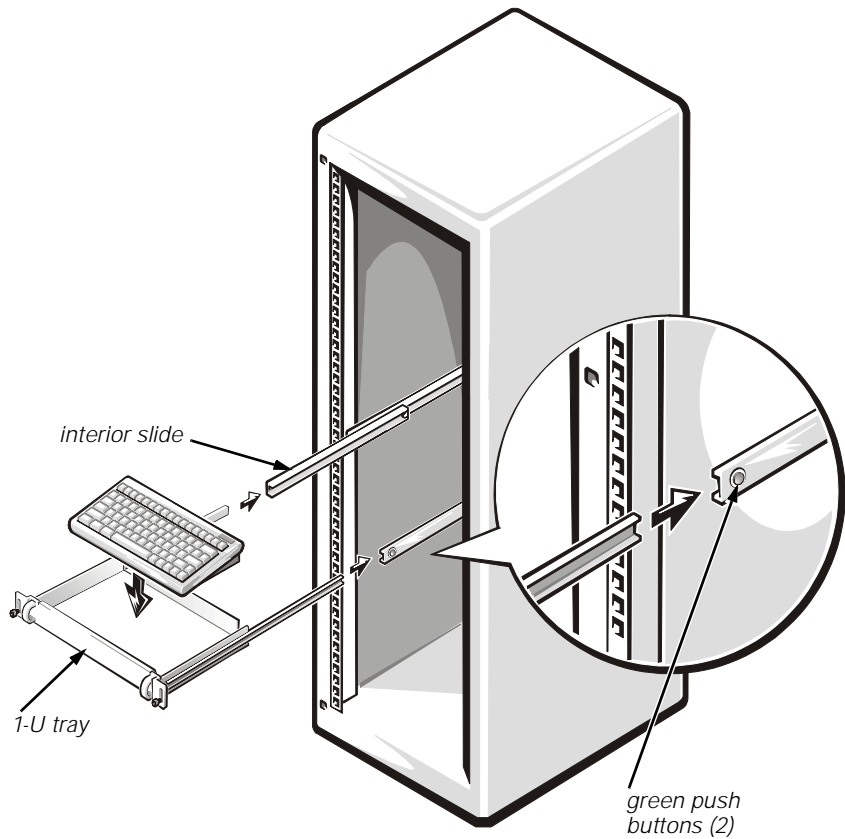

Figure 6. Installing the 1-U Tray and Keyboard in the Rack
NOTES: When installing the slide assemblies, be sure that the green plastic stops at the ends of the channels are at the back of the rack and that the green push buttons (on the interior slide) are near the front of the rack (see Figure 6).
2. Lift the 1-U tray into position and insert the rails into the channels of the interior slides (see Figure 6).
NOTE: As you push the 1-U tray into the interior slides, the slide assemblies lock in the extended position. Press the green push button near the end of each interior slide to release the locks (see Figure 6), and then slide the 1-U tray completely into the rack.
As you pull the 1-U tray out to its farthest extension, the slide assemblies will lock in the extended position. To push the 1-U tray back into the rack, press the green buttons near the front of both interior slides (see Figure 6) and simultaneously push in on the 1-U tray.